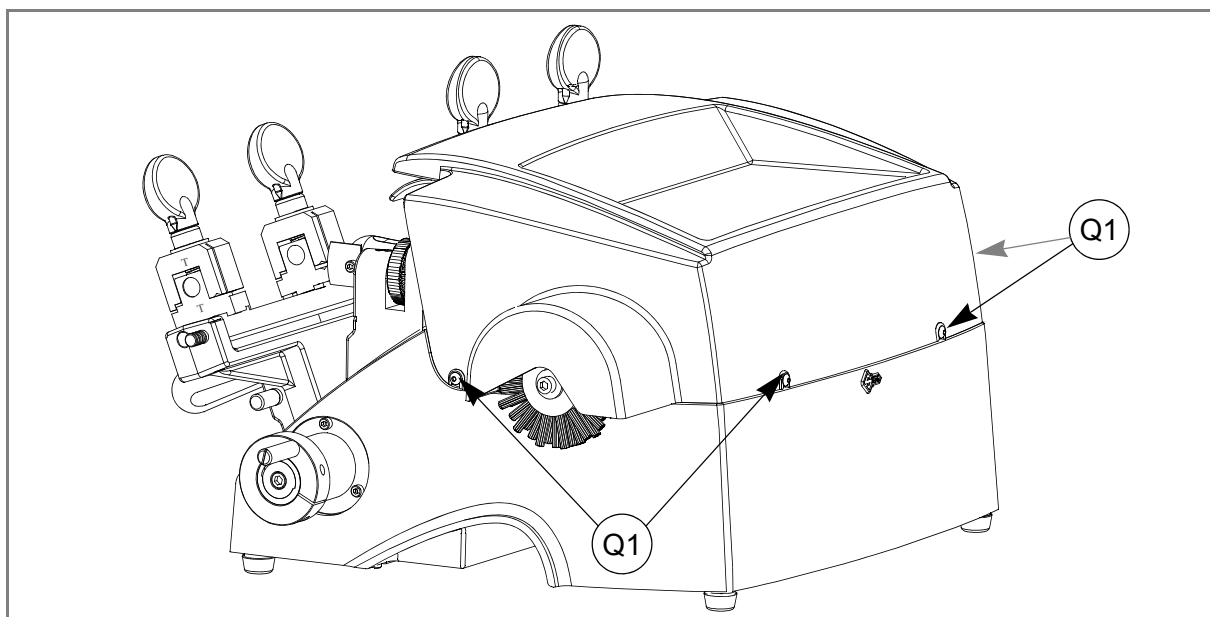

Fig. 49
- 1) Loosen the 4 screws (Q1) and remove the top cover (Q) (fig. 49).
- 1) Loosen the 4 screws (Q1) and remove the top cover (Q) (fig.49, page 35).